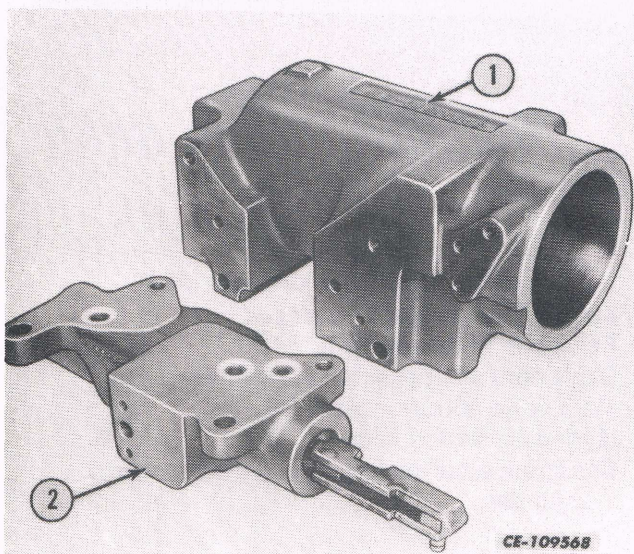

Fig. 36
3. Remove the draft control valve assembly (2, Fig. 36) from the draft control cylinder assembly (1, Fig. 36), as follows:
b. Remove the draft control valve assembly (2). See Fig. 36).